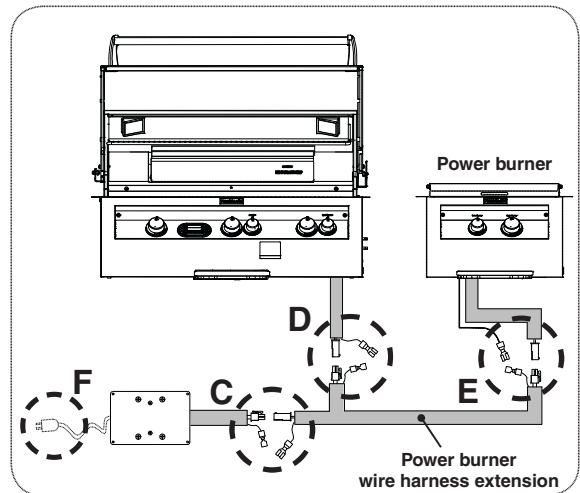

Fig. 16-3 Connect power burner to grill setup
- Locate the end of the power burner wire extension that has two molex and ground connections. Connect the extension (plug) molex connection to the power supply (receptacle) molex connection and ground wires (See Fig. 16-3, **C**).
- Connect the extension (receptacle) molex to the grill (plug) molex connection and ground wires (See Fig. 16-3, **D**).
- Connect the opposite end of the extension to the power burner as shown in Fig. 16-3, **E** (molex and ground wire connections).
- Reconnect the power cord (see Fig. 16-3, **F**).